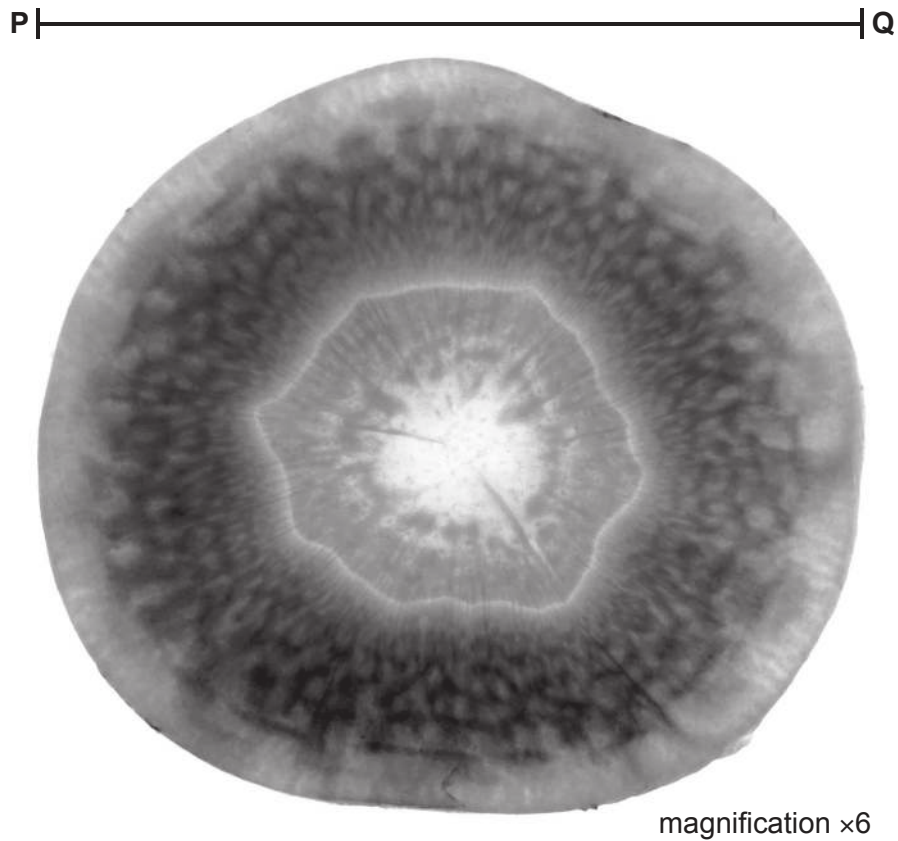

Fig. 2.1
- 2 Fig. 2.1 is a photograph of a cross-section of a root from a carrot plant, *Daucus carota*.
- (a) (i) Draw a large diagram of the carrot root cross-section that shows the layers visible in Fig. 2.1.
- (ii) Line **PQ** on Fig. 2.1 represents the diameter of the carrot root cross-section.
Measure the length of line **PQ** on Fig. 2.1.
$$\text{magnification} = \frac{\text{length of line PQ in Fig. 2.1}}{\text{actual diameter of the carrot root cross-section}}$$